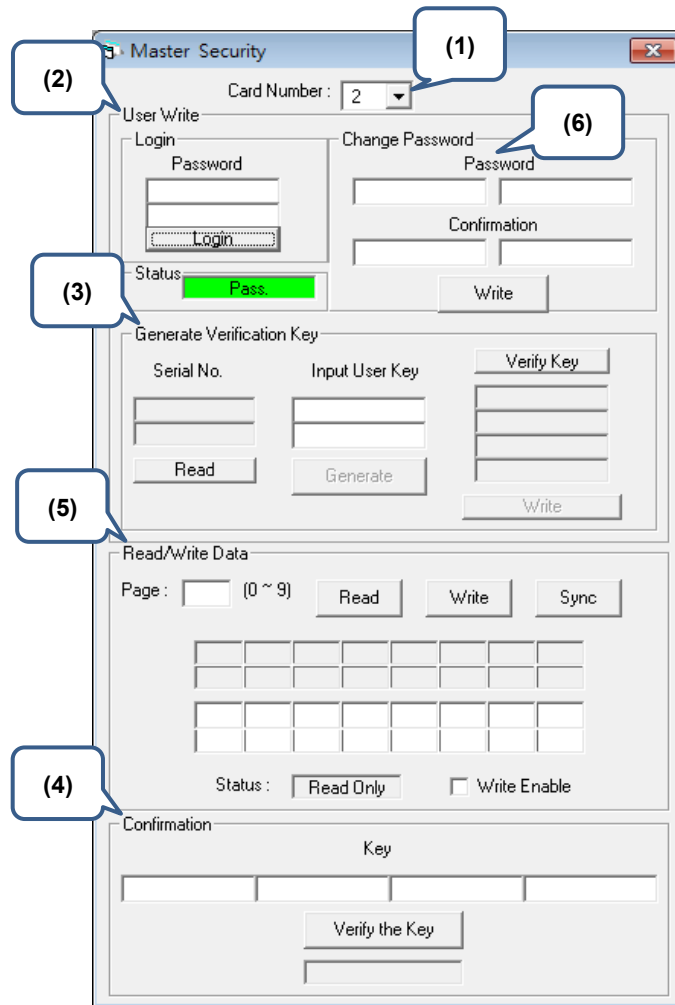

Figure 7.8.1 Master Security function description
- (3) If login is successful, the status will display "Pass" and access to the functions in blocks (3), (5), and (6) will be granted as shown in Figure 7.8.1; if not, the status will display "Failed" and users must re-login.
Below is a more detailed description of block (5) in Figure 7.8.1.